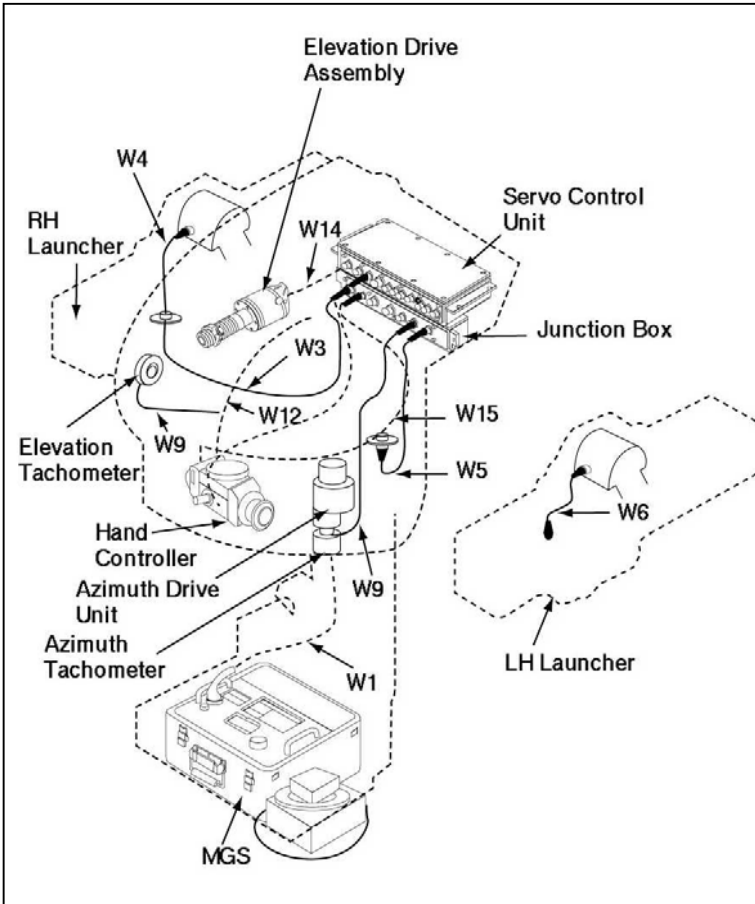

Figure 4-8-2: AZ/EL Tachometers Signals
16. The elevation and traversing movements of the turret are detected by the elevation tachometer assembly and azimuth tachometer (see Figure 4-8-2). The tachometers send a signal that is proportional to the movement of the turret and turret shield via cable to the junction box and then through cable to the MGS. The signals are computed by the MGS, corrections are sent back from the MGS via cable to the junction box, then to the right or left launcher and from the launcher the corrections are sent to the launched missiles via the missile guidance wires.